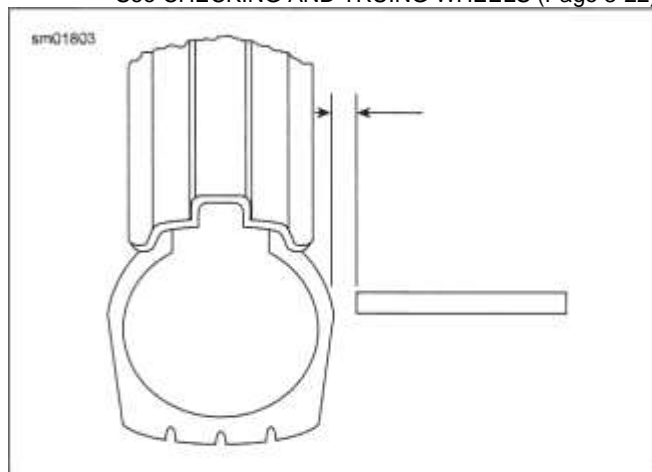

Figure 3-38. Checking Tire Lateral Runout
2. See Figure 3-38. Spin the wheel and measure lateral runout from a fixed point to a smooth area on the tire sidewall.